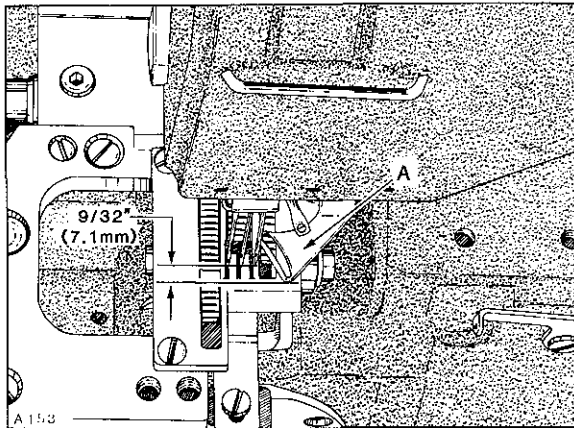
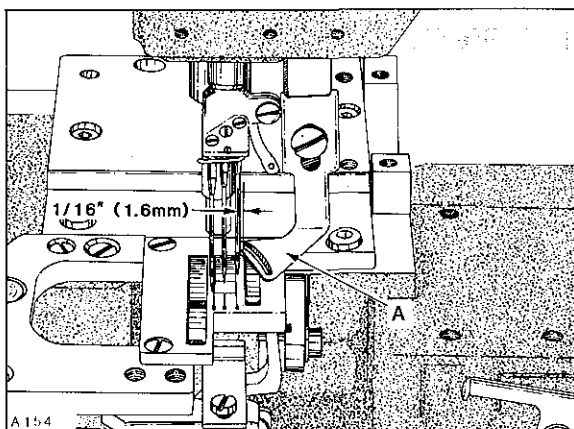
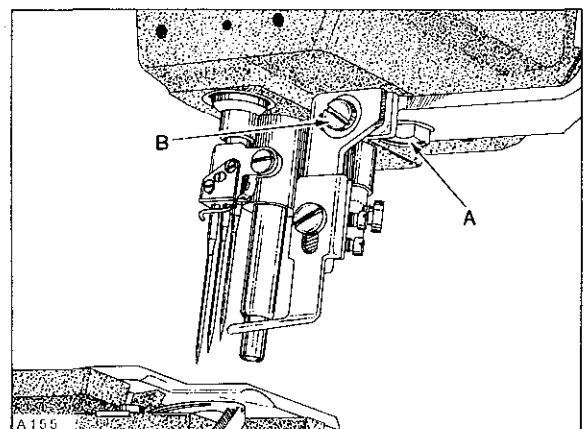

Fig. 23
Fig. 24
Fig. 25
Stationary spreader thread guide (A, Fig. 23) should be positioned with its outer front edge $9/32$ inch (7.1mm) to the front of the centerline of right needle. The left rear edge of the (banana shaped) SLOT in guide (A), should be positioned $1/16$ inch (1.6mm) to the right of the centerline of right needle, as shown in Figure 24. Front to rear adjustment can be made by loosening screw (A, Fig. 25) while left to right adjustment can be made by loosening screw (B). When stationary spreader thread guide is properly set, tighten screws (A and B) securely.